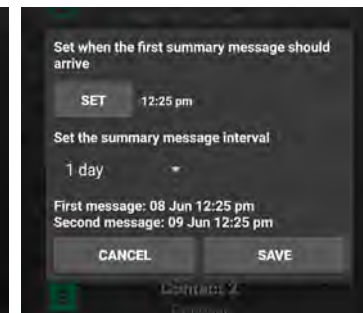

Fig. 9
- e. Summary Interval – The interval at which the EL-SMS device will send you information regarding its status. (See Fig. 9).